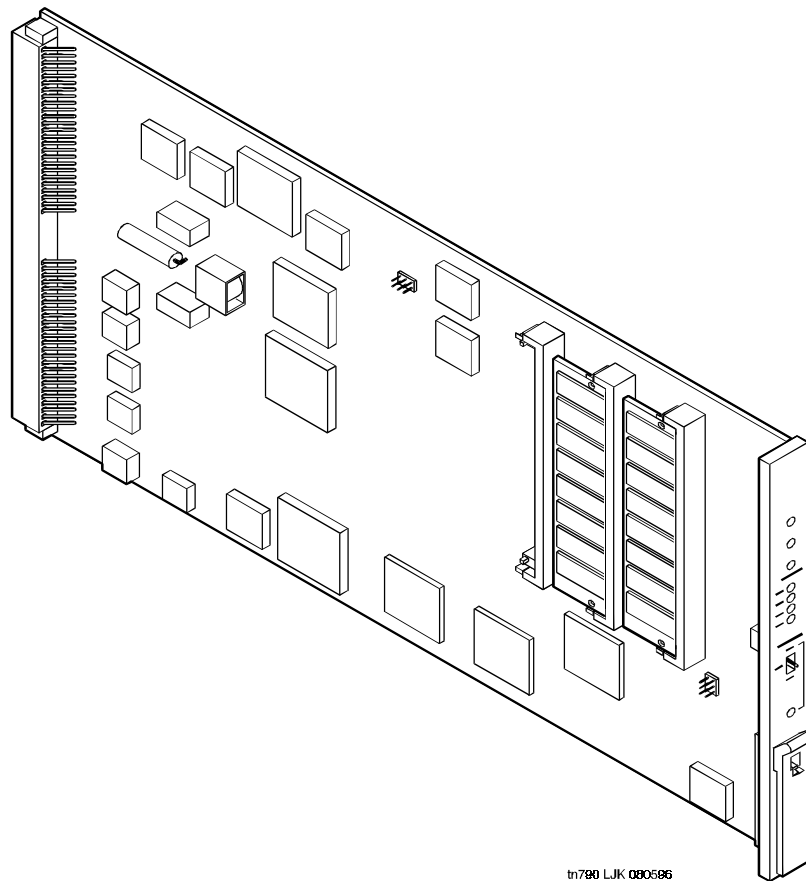

Figure 6-5. TN790 Processor Circuit Pack
3. See previous WARNING. Install the TN790 processor circuit pack into the control-cabinet slots labeled "PROCR" and "MEM". See Figure 6-5 for an illustration of the TN790 processor circuit pack.